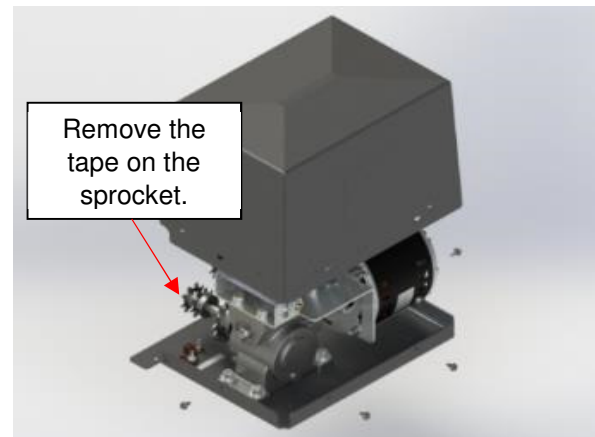

Figure 83
- 14) Install the 3/16-3/16-5/8 in. key into the long U-frame's input shaft's keyway. (Figure 83)
- 17) Align the keyways of the input shaft and operator's sprocket together by turning the hex shaft of the gearbox. (Figure 83)